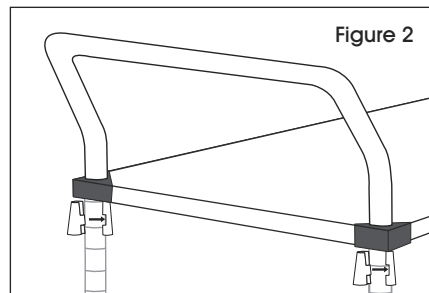

Figure 2
2. Snap the interlocking pieces of a shelf support (wide end down) around the post at the highest groove where shelf is to be located. Slide the support up or down until it snaps into the groove. (See Figure 2)